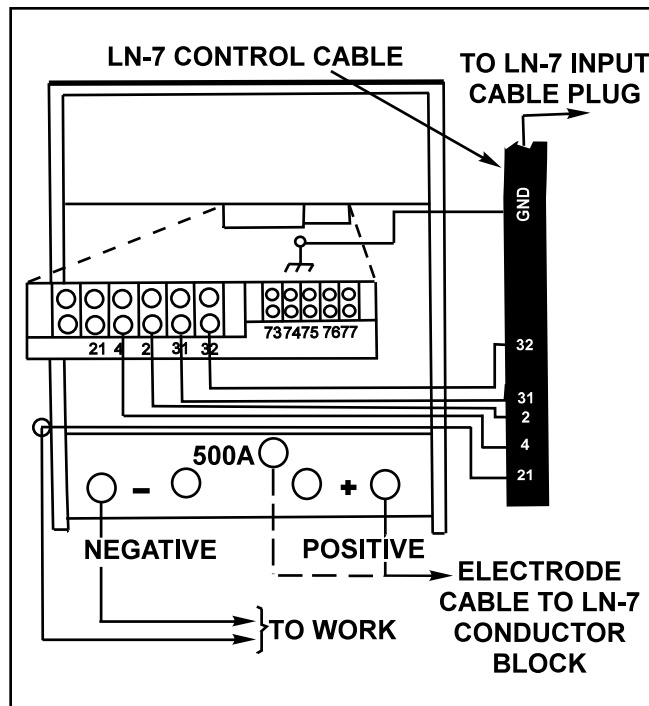

FIGURE C.5 - LN-7 Wire Feeder Connection to the IDEALARC DC-1000
3. Connect the wire feeder control cable leads to the IDEALARC DC-1000 terminal strip as shown in Figure C.5.
6. Connect the welding cables as shown in Figure C.5.
NOTE: The connection diagram shown in Figure C.5 shows the electrode connected for positive polarity. To change polarity: